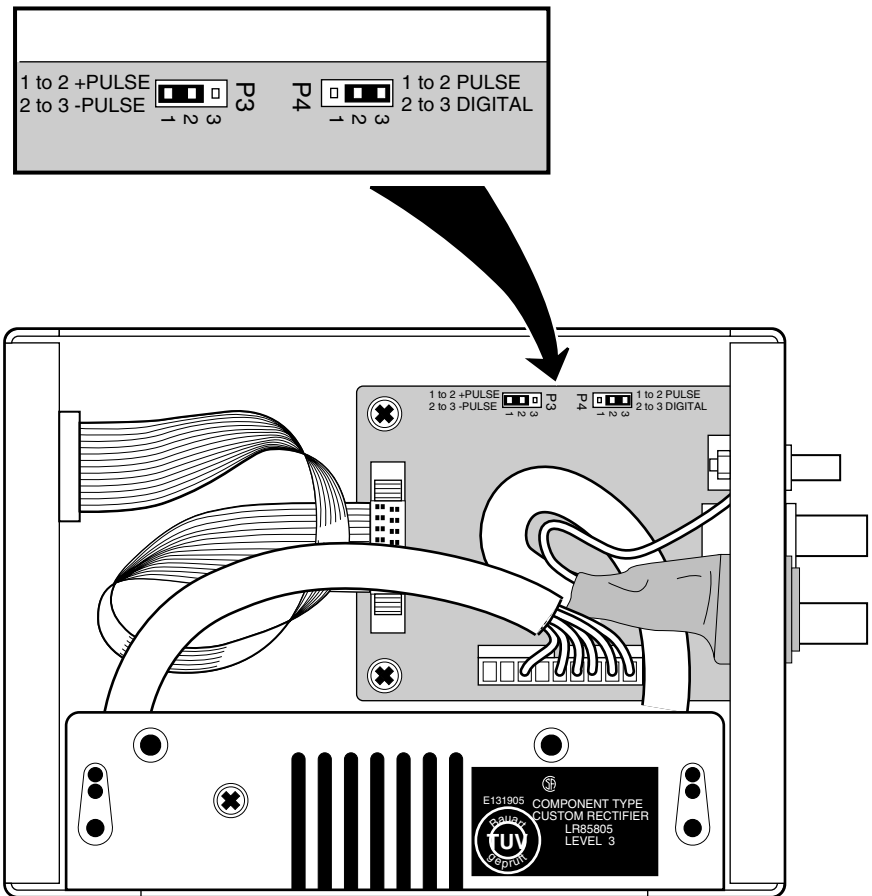

Figure 2-7. 59553A Digital Mode Jumper Locations
- 2 In the 59553A, place jumper P3 in its pins 1,2 default position as shown in Figure 2-7.
- 3 Place jumper P4 in the pins 2,3 position to select one-signal transmission as shown in Figure 2-7.